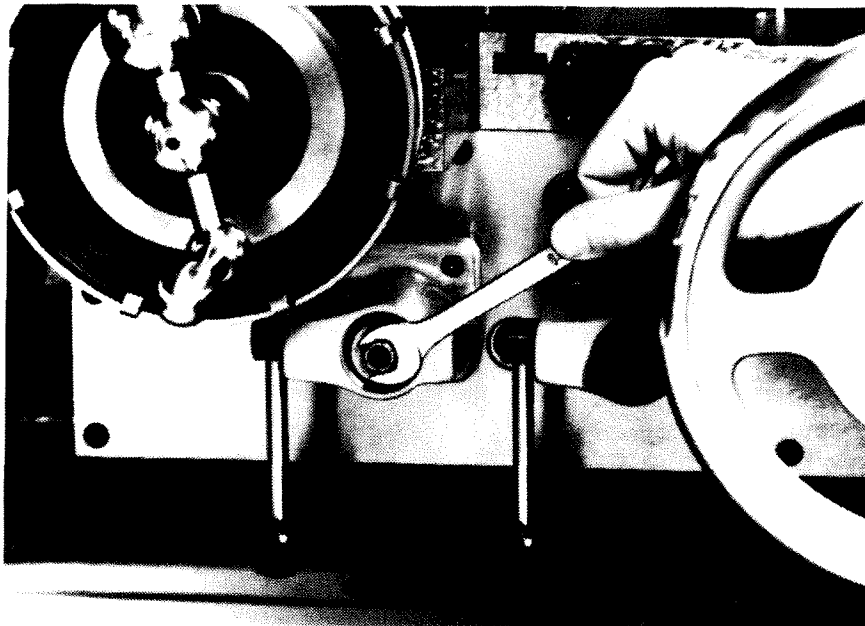

Figure 1.24 - Power Feed Clutch Adjustment
23. If necessary, adjust the carriage and/or cross feed clutch as shown in Figure 1.24 .